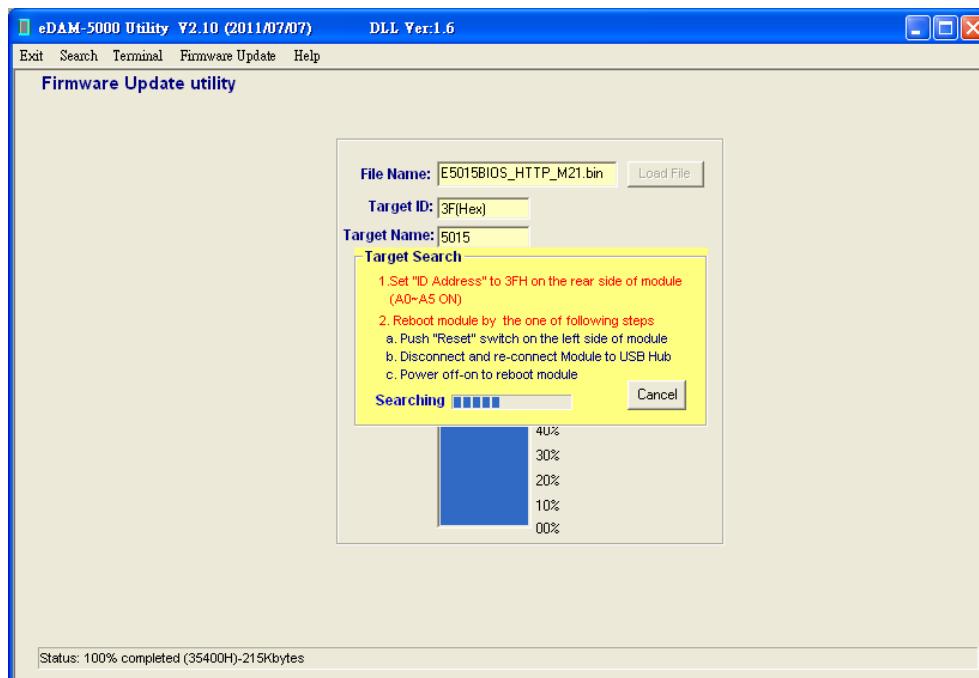

Figure 15-8
8. The Utility is searching module. Power-off /on the module or press **“Reset button”** at the down side of the module to **reboot** the module. (see Figure 15-8)